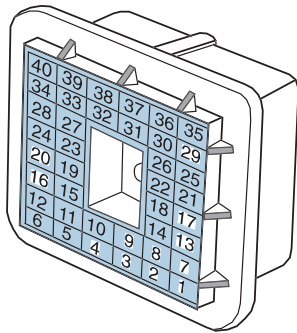

Figure 4-11 Bulkhead connector. (Courtesy of DaimlerChrysler Corporation)
3. **Bulkhead connectors:** These connectors are used when several wires must pass through the bulkhead (Figure 4-11).